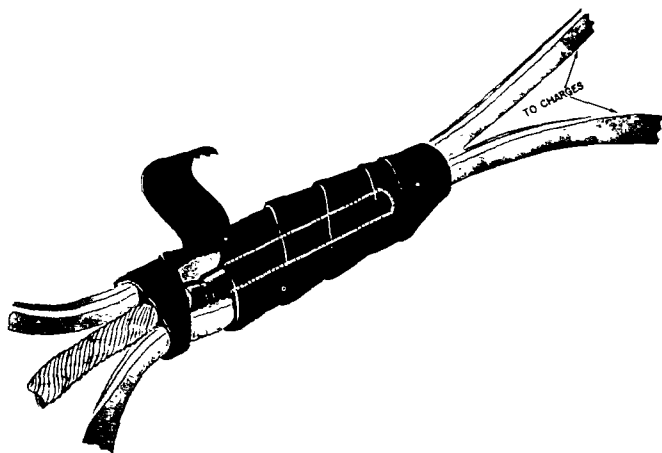

Figure 113. Fastening blasting cap to two lines of detonating cord.
b. A single cap properly fastened to two detonating cord lines will detonate both lines. Figure 113 shows the correct method of fastening a cap to two detonating cord lines.